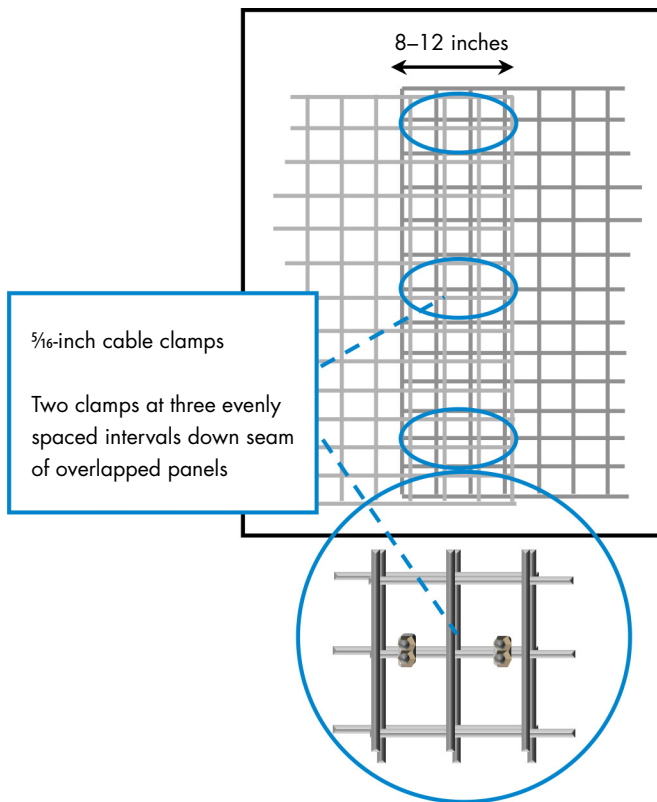

Figure 2. Connect the panels to one another.
3. Working from the free ends of the panels on each side of the trap door, connect the remaining panels to one another by overlapping the adjoining ends 8–12 inches and securing the sections together using 5/8-inch cable clamps or heavy-gauge wire (Figure 2). Complete the circle and “fine tune” the corral’s shape by pulling or pushing the joined panels in or out as necessary.